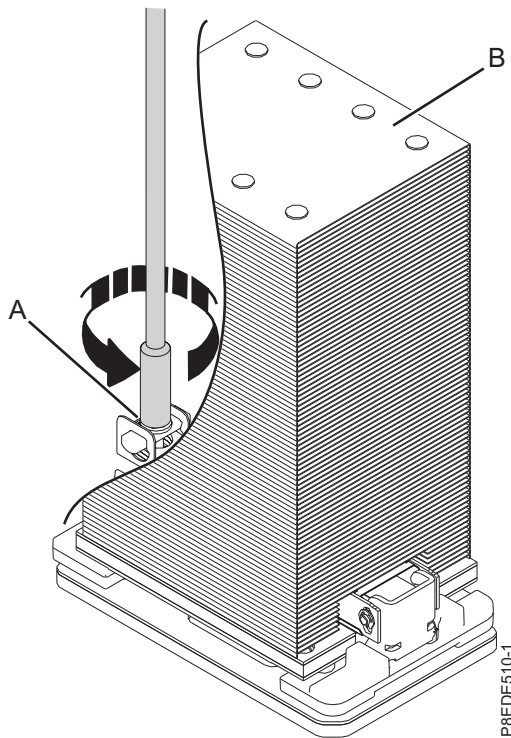

Figure 87. Removing the heat sink
- a. Loosen the heat sink actuation screw by turning the supplied 5.5 mm nut driver (part number 43W3032) counterclockwise **(A)** until the screw becomes loose and moves freely as shown in Figure 87 on page 86.